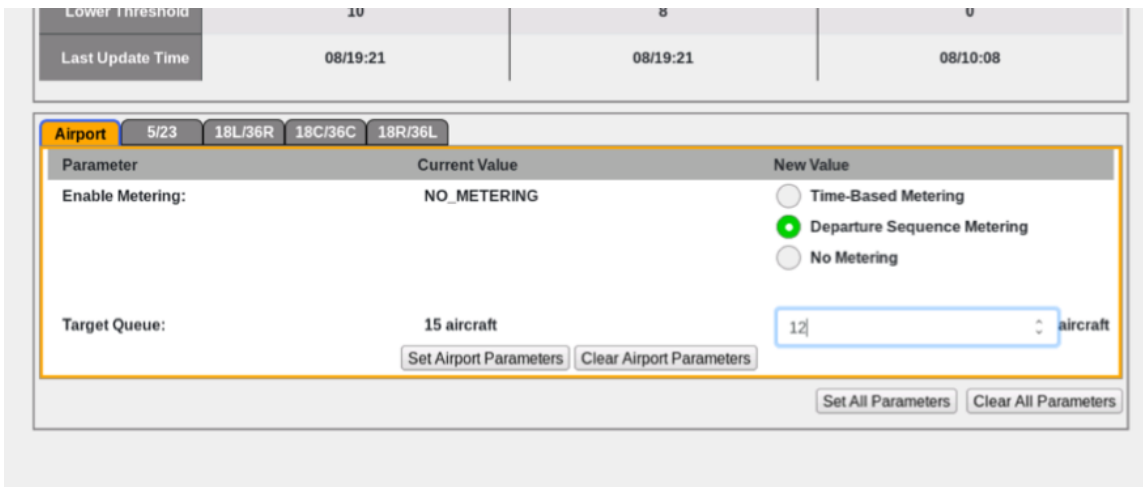

Figure 7. Select an integer value for the number of aircraft in the Target Queue.
Step 2: Use the up and down arrows in the text box under the target queue 'New Value' column to enter a new target queue value, or click in the text box and manually type in a new target queue value. The selected New Value for target queue number will appear at the right side of the window, as seen in Figure 7, until the parameter has been Set.